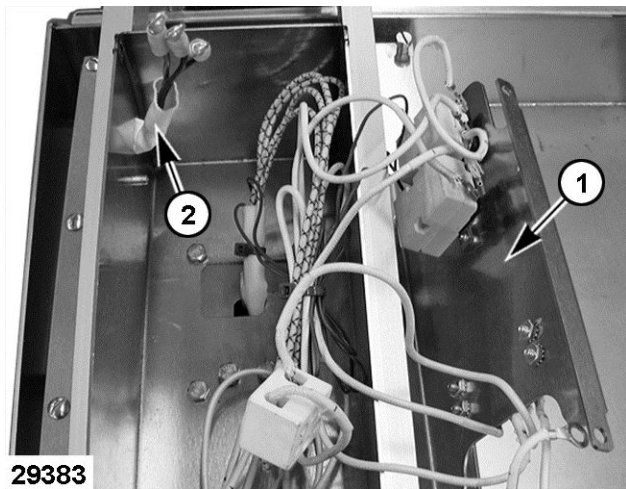

Fig. 10
- E. Lift the control box mounting shelf (1, Fig. 10) and place to the side.
- F. Feed the power supply wires (2, Fig. 10) back into the left arm enough to clear control box.